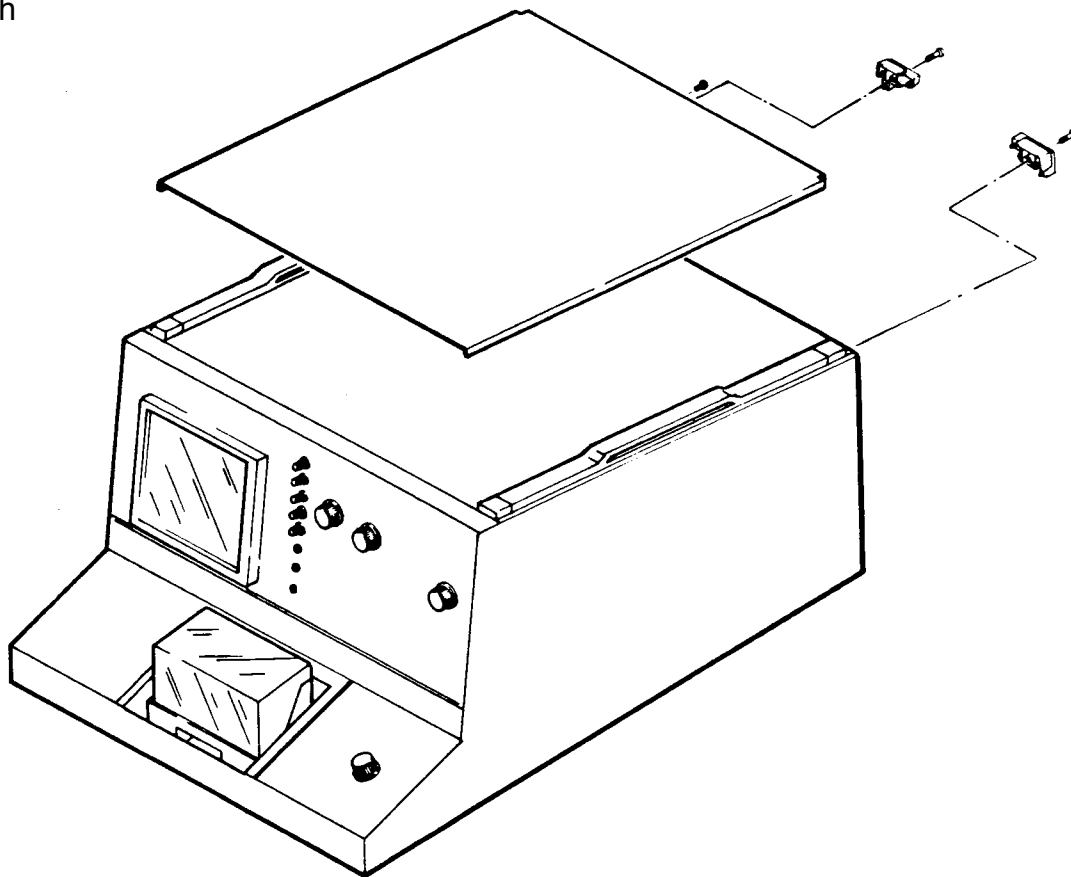

Figure 1. Top cover removal.
- () 1. Remove the 2 screws from the top rear cover retainers and the 1 screw that secure the top cover to the instrument. Slide the top cover to the rear then lift away from the instrument (refer to figure 1).